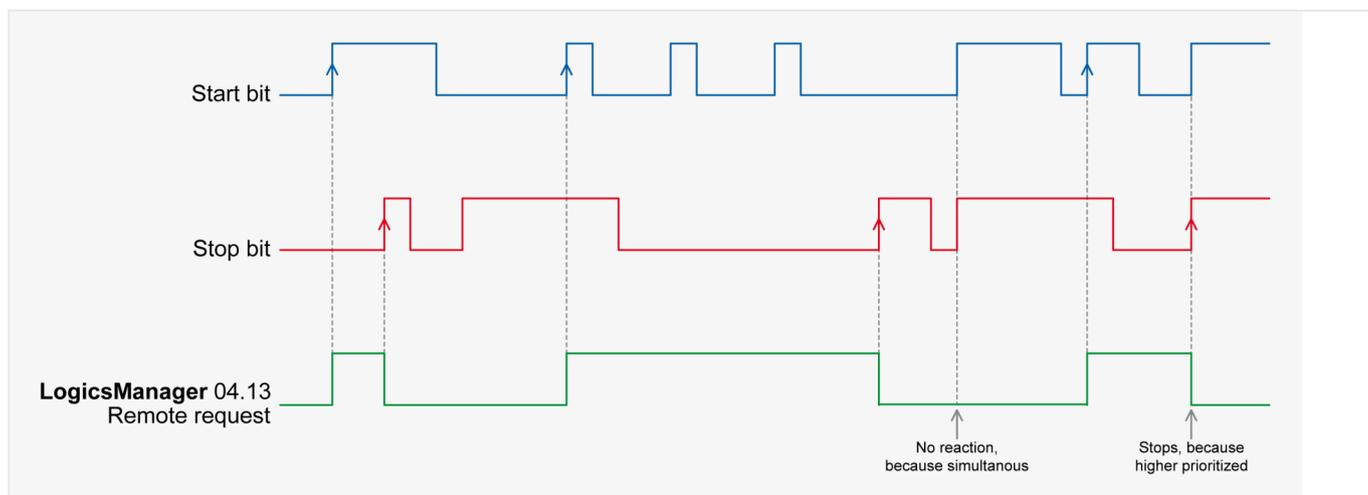

Fig. 249: Command variable
- The command variable "04.13 Remote request" changes to "0" (low) if the stop bit (ID 503, bit 1) changes from "0" to "1" (↪ Fig. 249).